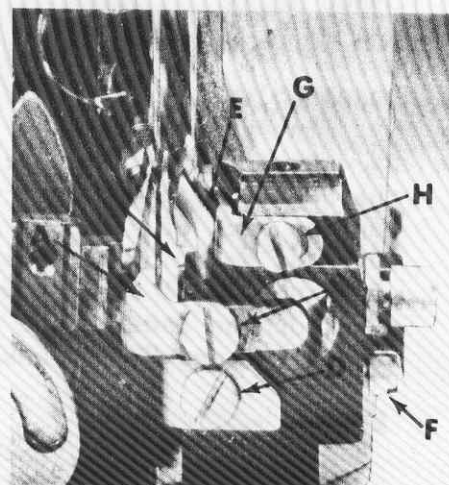

Fig. 9
Set the rear needle guard (A, Fig. 9) as high as possible without interfering with either the lower looper or movement of the lower knife holder, but still in position to deflect the needle forward .002 to .004 inch (.051 to .102 mm). Screw (B) is used to set rear
Set the front needle guard (C, Fig. 9) as close as possible to the needle without touching. Screw (D) is used to set front needle guard. After making adjustment, make sure there is no interference between needle guards and differential feed dog.
Insert rear needle guard into the hole in the throat plate support bracket. Set height of guard (E, Fig. 9) approximately $\frac{3}{16}$ inch (4.76 mm) below the throat plate seat. Bring the 401 needle down until its point is $\frac{1}{64}$ inch (.40 mm) below the widest portion of the guarding surface. Then bring the guard forward to deflect the needle forward from .002 to .004 inch (.051 to .102 mm). Then lock the guard in place with set screw (F).
Set front needle guard (G, Fig. 9) as close as possible to the needle when looper point is behind the needle and flush with the left side of needle. Also, front needle guard should be set so there is from $\frac{1}{64}$ to $\frac{1}{32}$ (.40 to .79 mm) clearance between it and bottom of looper blade. Turn handwheel in operating direction, making complete revolutions to check whether needle is disturbed or pinched. Lock with screw (H).